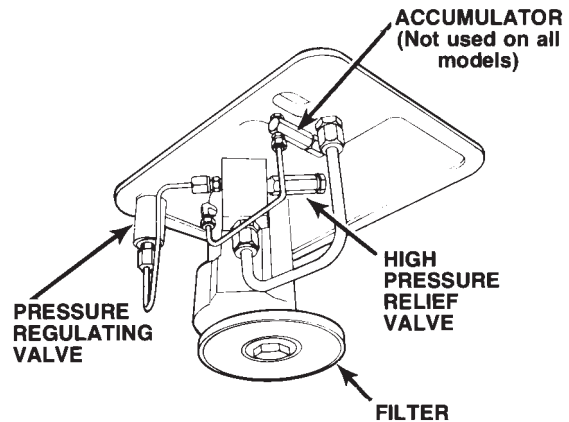

FIGURE 6
1. Remove the ten screws fastening the motor and pump assembly to the reservoir. **IMPORTANT: Do not damage the gasket or pump the filter or pressure regulating valves when lifting the pump and motor off the reservoir. See Figure 6.**